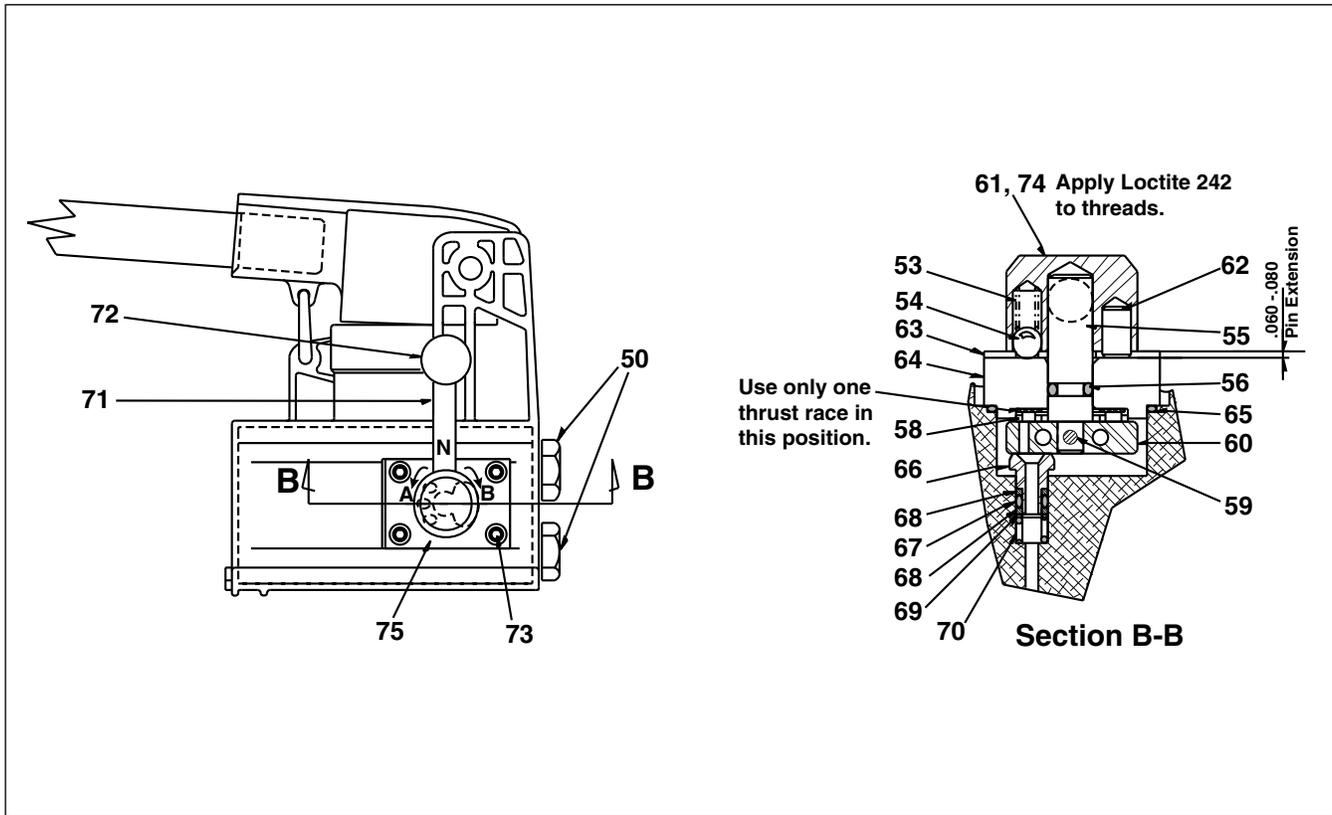

Figure 2. Section B-B
**REPAIR PARTS LIST (Refer to Figures 2 and 3)**
**REPAIR PARTS LIST - CONTINUED (Refer to Figures 2 and 3)**